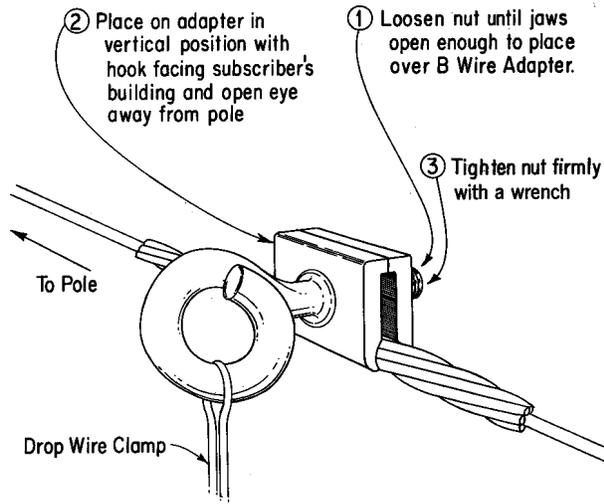

Fig. 10 – Place D Span Clamp
3.02 Place D Span Clamp in center of adapter as shown in Fig. 10.